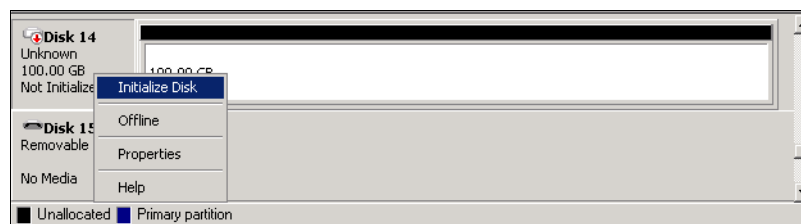

Figure 5-29 Initialize Disk menu
- Right-click the disk again, select **Initialize Disk** (Figure 5-29), and click **OK**.